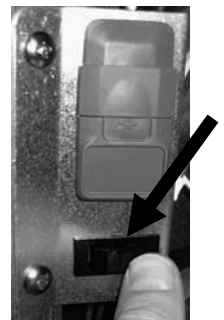

Figure 36
The control power reset switch, is a momentary rocker switch, located in the far left fryer cabinet (see Figure 36), that resets all power to all the controllers and boards in the fryer. It is necessary to reset all power after replacing any controller or board and after any setup change. Press and hold the switch for at least **sixty (60) seconds** when resetting the control power to ensure power has sufficiently drained from boards.